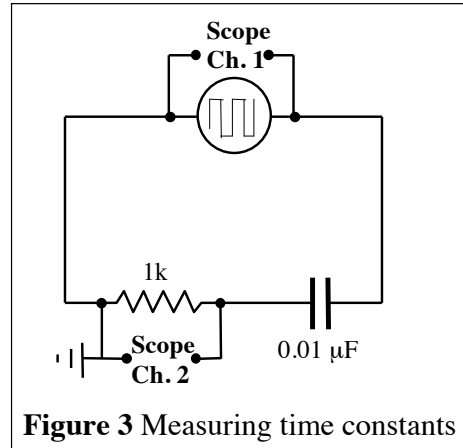

Figure 3 Measuring time constants
- Connect up the RC circuit of figure 3, and apply a square-wave of frequency about 50 kHz. Use the 'scope to observe, on channel 1, the voltage applied to the capacitor and, on channel 2, the current that flows into or out of the capacitor. Remember, the 'scope does not measure current directly, so instead measure the voltage across a 1 k Ω resistor. Just as previously, the positive-going and negative-going edges of the waves charge up the capacitor, which then discharges through the resistor R (the parallel input resistance of the 'scope is much too large to have any effect).